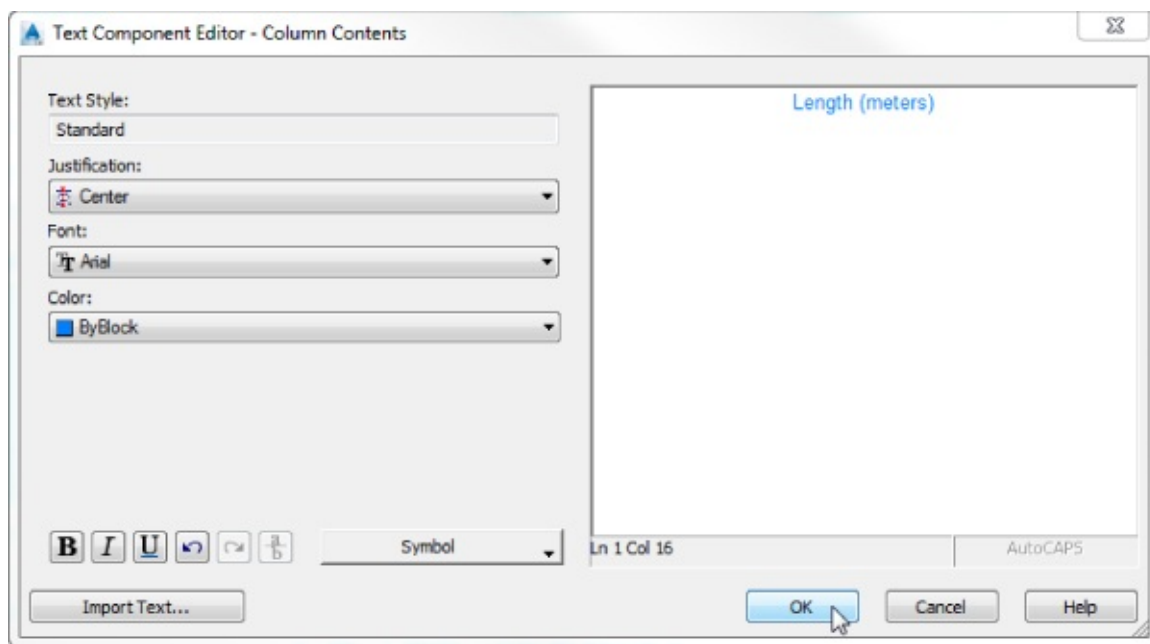

Figure 18.52 Adding static text to a table column heading
7. Add **(feet)** or **(meters)** after the column heading to add a proper units heading to the column, as shown in Figure 18.52, and click OK.